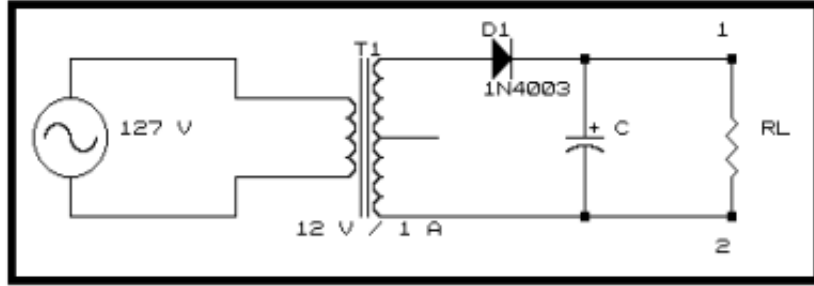

Figure 3.3.0: Half-wave rectifier circuit with filter.
Once the circuit it's armed using the  $100\Omega$  resistor as  $R_L$  we will measure with the voltmeter the **Voltage** and **Current** in this component. According to the Figure 3.3.0, we will connect the Positive terminal of the voltmeter in the terminal 1 of Figure 3.3.0 and the Negative terminal of the voltmeter in the terminal 2 of Figure 3.3.0, we will call this voltage  $V_0$  for the current  $I_0$  we can use **Ohm's Law**:
Table 2: Measured values of Figure 3.3.0.
The small unwanted residual periodic variation of the direct current (DC) output of a power supply which has been derived from an alternating current (AC) source it's called **Ripple**. To measure the **ripple voltage**  $\Delta V$  it's necessary to connect the **oscilloscope terminals** in the terminals 1 and 2 of the Figure 3.3.0 in the option of AC.
Table 3: Ripple Voltage of Figure 3.3.0.